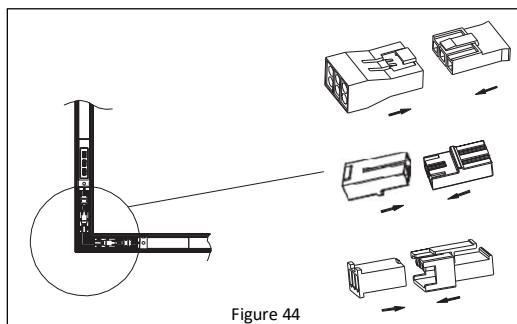

Figure 44
- Make electrical connection with male-female connectors. **See Figure 44.**